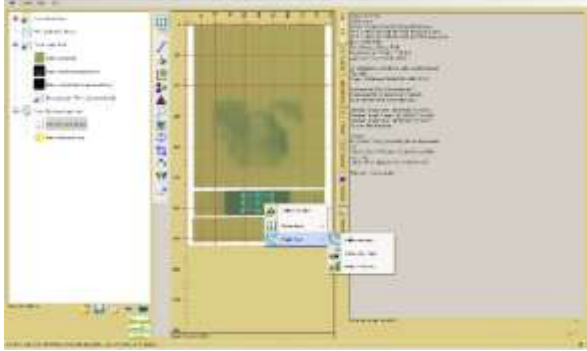
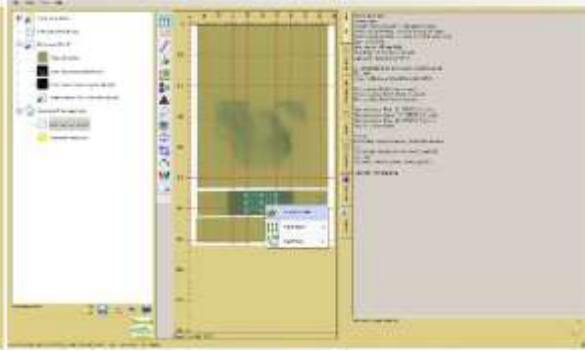
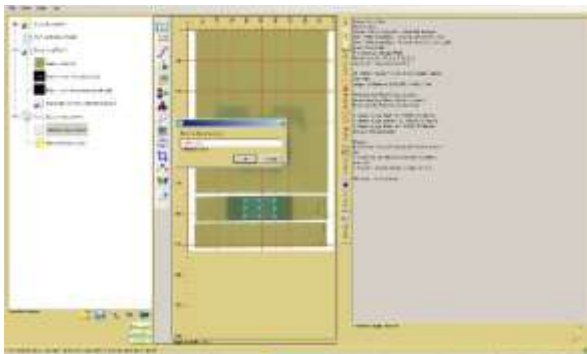

Figure 6A
Figure 6B
Figure 6C
11. Right click the areas of interest (Figure 6A) to name the region types as "Calibration Region". Then right click the regions, select "Calibration Value" (Figure 6B), type in the dose, press "enter" and then "OK" (Figure 6C).